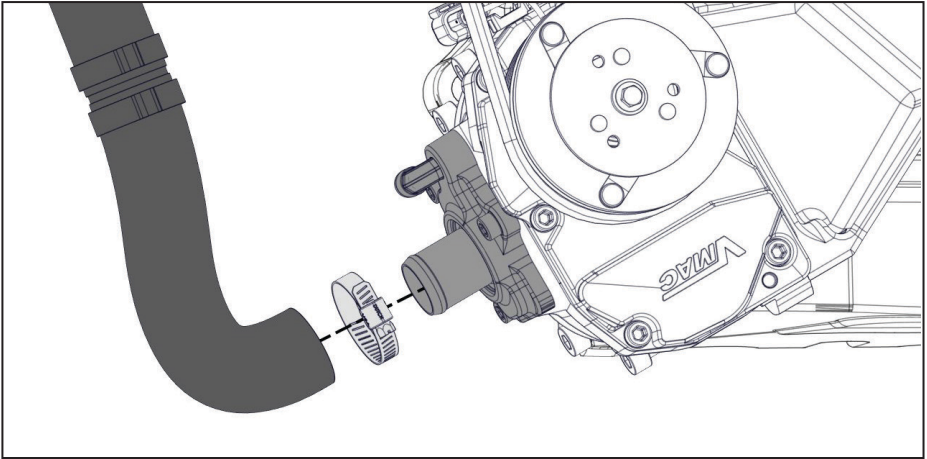

Figure 38 — Install intake hose
- Install the curved end of the 1 in intake hose assembly onto the spigot on the side of the compressor. Direct the hose upwards and secure it using the supplied hose clamp (Figure 38).